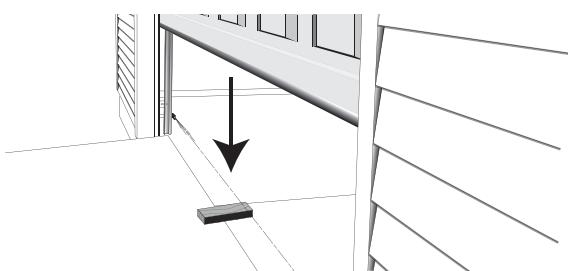

FIG. 6-2 2 x 4 under center of door opening
- Place a 2" x 4" board (laid flat) under **center of garage door opening** (**Fig. 6-2**).